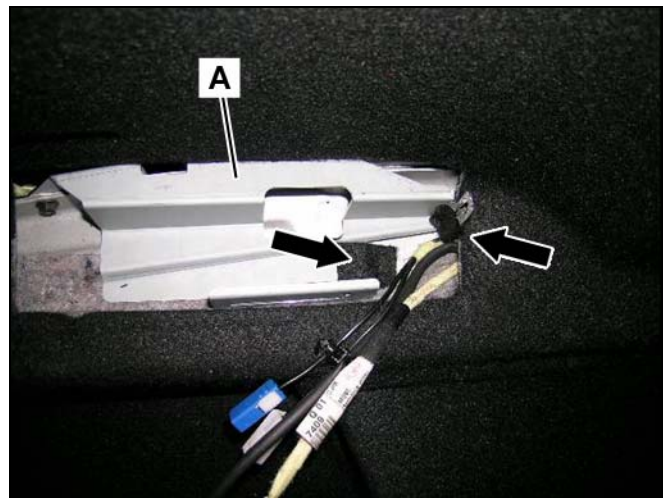

Figure 17
8. Cover the sharp edges on Part A of the SDARS bracket (A, Figure 17) with two pieces of 25 mm x 35 mm felt tape (Arrows, Figure 17).